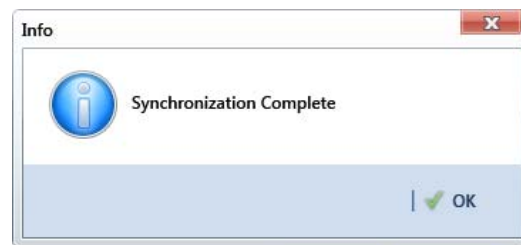

Figure 15-16. Synchronization Complete
- 2 Click  **OK** when the message *Synchronization Complete* displays to complete the process (Figure 15-16).